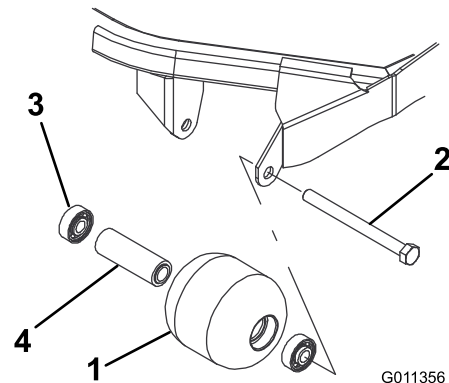

Figure 71
1. Remove the roller mounting bolt (Figure 71).
4. Inspect the roller housing, bearings, and bearing spacer for damage (Figure 71). Replace damaged components and assemble.
1. Press the first bearing into the roller housing (Figure 71). Press on the outer race only or equally on the inner and outer race.
2. Insert the spacer (Figure 71).
3. Press the second bearing into the roller housing (Figure 71) pressing equally on the inner and outer race until the inner race comes in contact with the spacer.